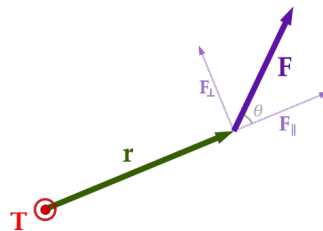

Figure 2: Definition of a torque.
*Reminder: the moment (or torque) of a force is defined according to fig. 2 and is given by:*